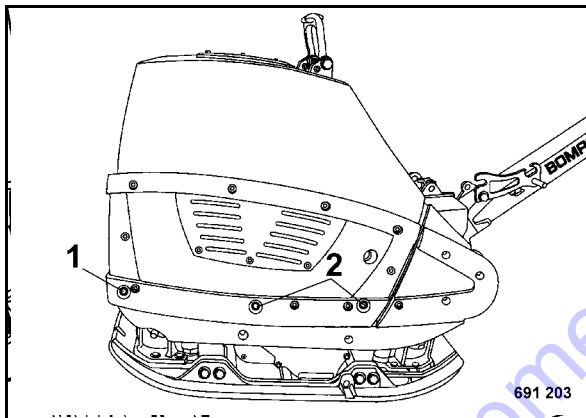

Fig. 53
- Loosen the hood fastening screws (1) on both sides and remove the hood fastening screws (2) on both sides (Fig. 53).